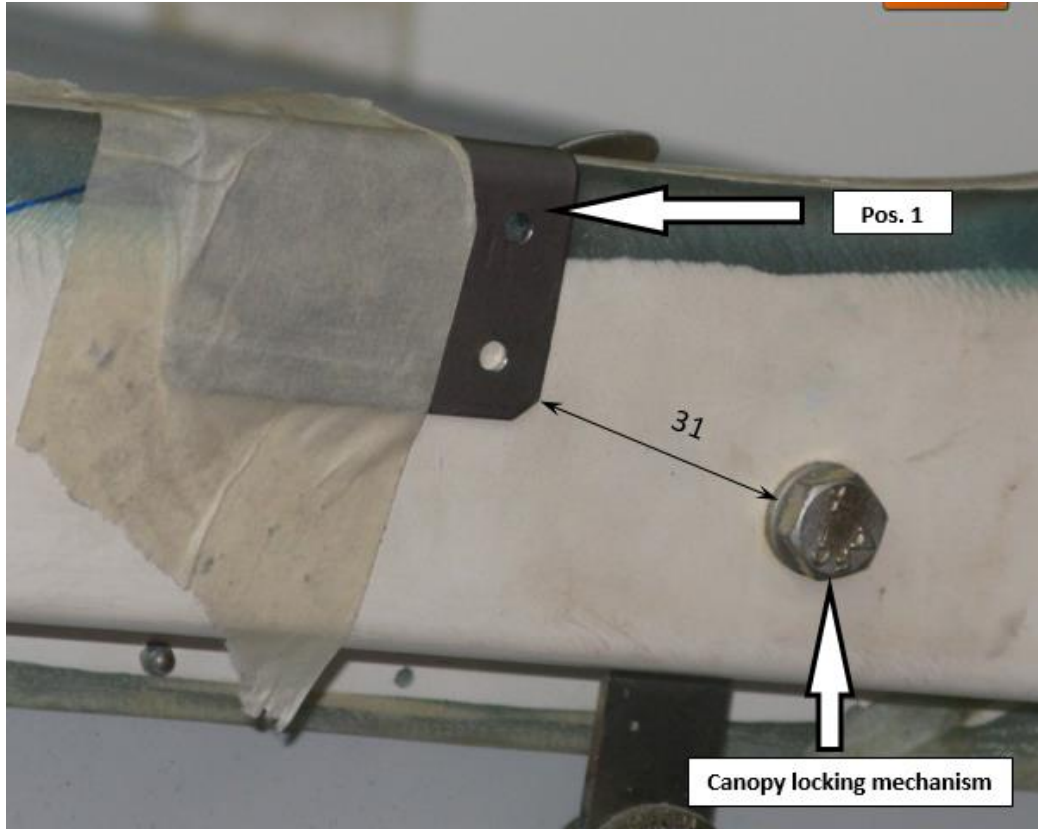

Fig. 2 - Positioning of the protective metal plate on the fixed frame (view of the left side of the cockpit)
- 1) Set the protective metal plate SF0354N on the left side of the fixed frame, 31mm aft of the bolt head, (see Fig. 2, Pos. 1) and fix it with masking tape. Drill four holes \varnothing 2.4 mm according to the holes in the protective metal plate and deburr the drilled holes.